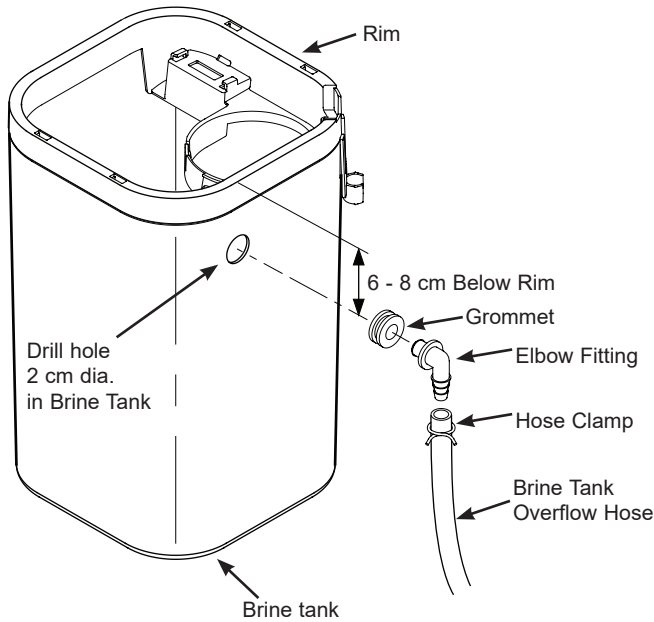

FIG. 9
- b. Drill a 2 cm diameter hole in one side of the brine tank, 6 to 8 cm below the rim (See Fig. 9). Locate it on the side most convenient for the particular installation location, but not close to the corner where the brinewell mounts. Remove any drilling debris from inside the brine tank.
- c. Install the rubber grommet from the parts bag into the 2 cm diameter hole. Press the larger diameter end of the overflow elbow fitting into the grommet, as shown in Fig. 9.